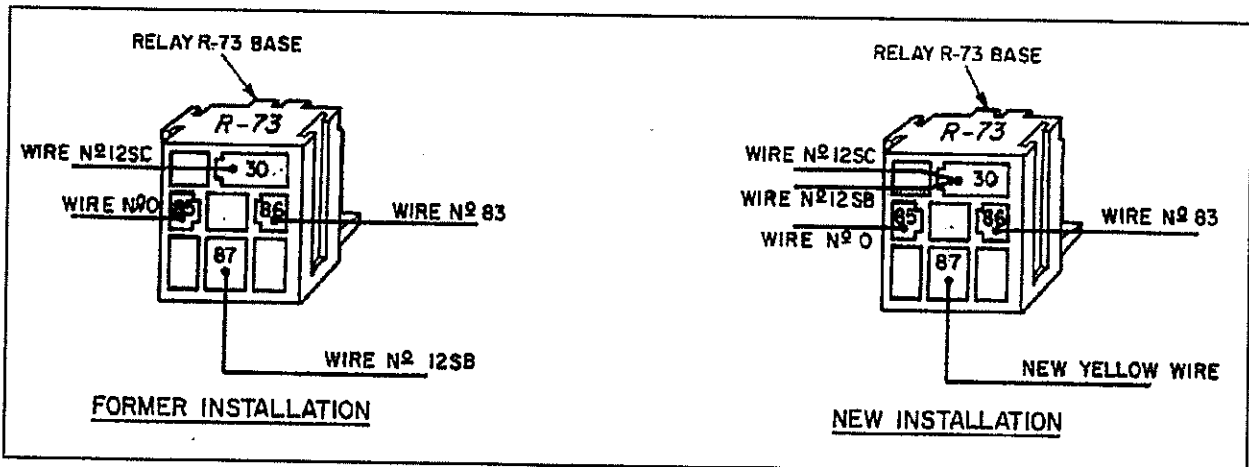

Fig. 6
12. Join wires #12SB and #12SC together, crimp a female connector #56-1181 (supplied with kit), then insert it in position #30 of relay R-73 base. Refer to figure 6.